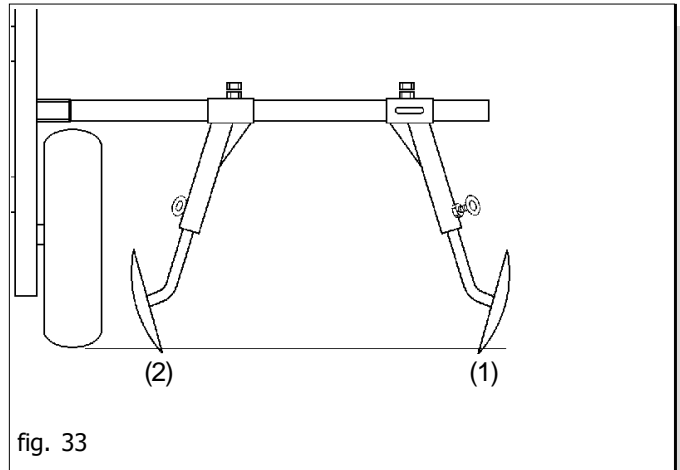

fig. 33
**Remember that for very low L values (distance between the external-most piece and the row marker) the arm may be inverted from position (1) to position (2) as shown in Figure 33.**